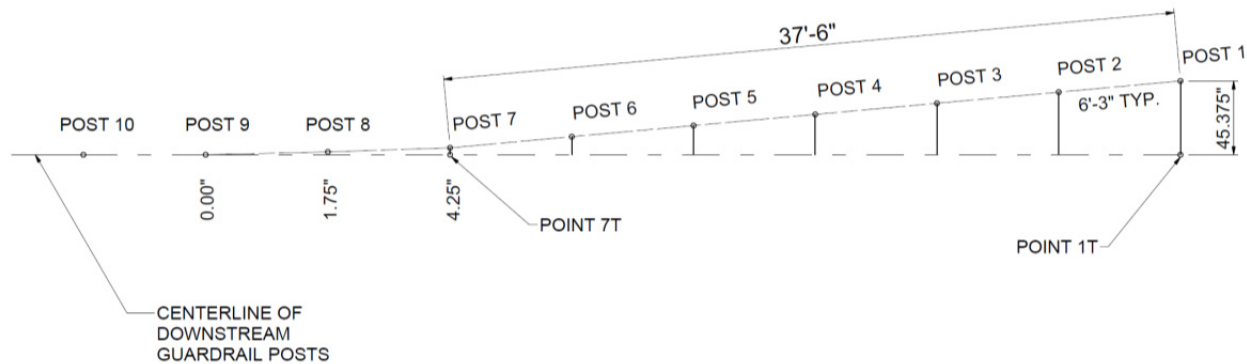

Figure 2 - Post Locations (4'-0" Flare Offset)
- 1.2 Extend the post centerline 12'-6" from Post 9 to establish Point 7T (See Figure 2).
- 1.3 Extend the post centerline from Point 7T to establish Point 1T (See Figure 2).
- 1.4 Measure from Point 1T an offset of 45 3/8" perpendicular to the road to establish the location for Post 1 (See Figure 2).
- 1.5 Measure the offsets of Posts 8 and 7 (See Figure 2).
- 1.7 Between Posts 1 and 7 mark Posts 2 through 6 at 6'-3" intervals (See Figure 2).